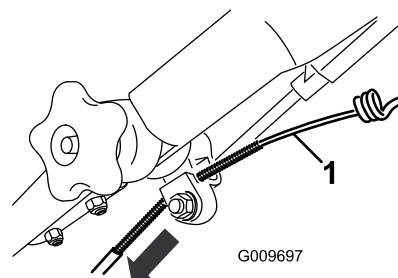

Figure 50
3. Pull the cable jacket downward until you remove the slack in the exposed cable (Figure 50).